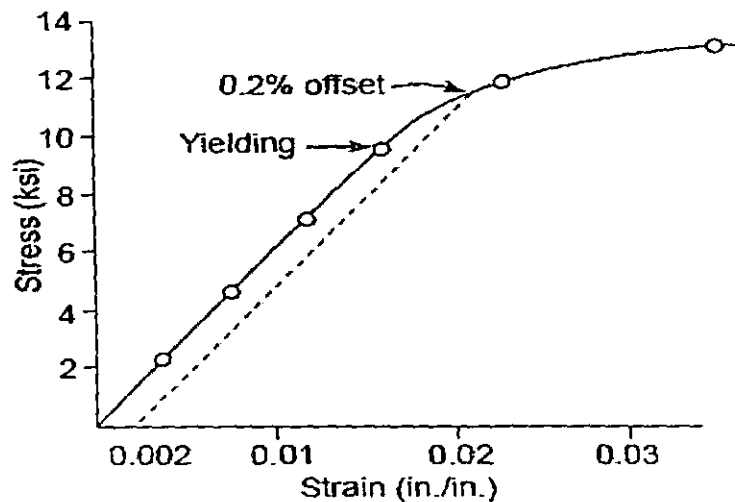

Figure 12.1
12. The following data (table 12.1) and plot (figure 12.1) were collected from a 0.4-in. diameter test specimen of polyvinyl chloride ( $l_0 = 2.0$  in.).